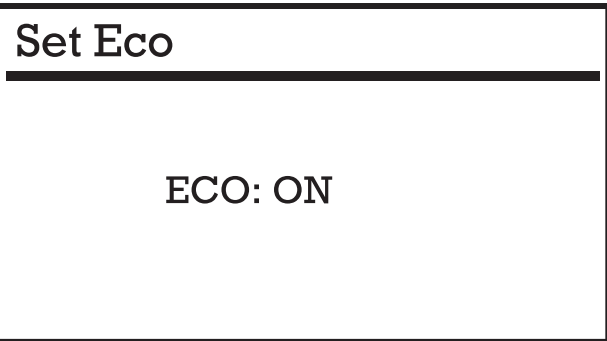

Figure 28
2. Using the **SCROLL DOWN** key, move down to option 4: "**SET ECO**". Press **ENTER** again to move into the "**SET ECO**" screen. **SEE FIGURE 28.**